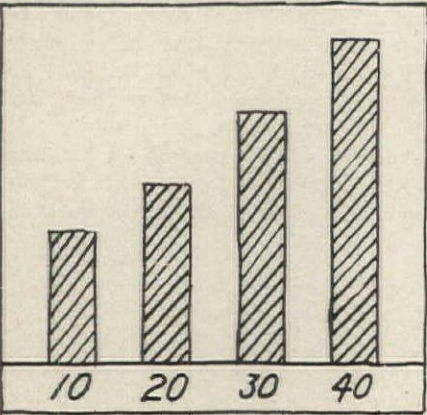

FIG. 3
**HEAT LOSS DUE TO INFILTRATION.** Here is the greatest individual loss of one that offers many opportunities for reduction. If your home stood in absolutely still air all winter, there would be no infiltration, but you know that such a condition is impossible. When a wind blows against the north wall of a house there is a pressure against that side that forces the cold outside air through every crack and cranny in almost unbelievable volume. Recently, I computed the infiltration due to a gang of four double-hung wood frame windows of conventional size, set in a wall of a living room, 14 ft. by 24 ft., and 9 ft. high. With a 10-mile wind blowing directly on the wall, the incoming air would entirely fill the room in 17 minutes. With a 20-mile wind the air was changed every 13 minutes, and with a 30-mile wind, which is not unusual in the average winter, the room would be filled with air, perhaps at zero temperature, every eight minutes. Can you appreciate the load that this one window can put on a heating plant? (Fig. 3.)